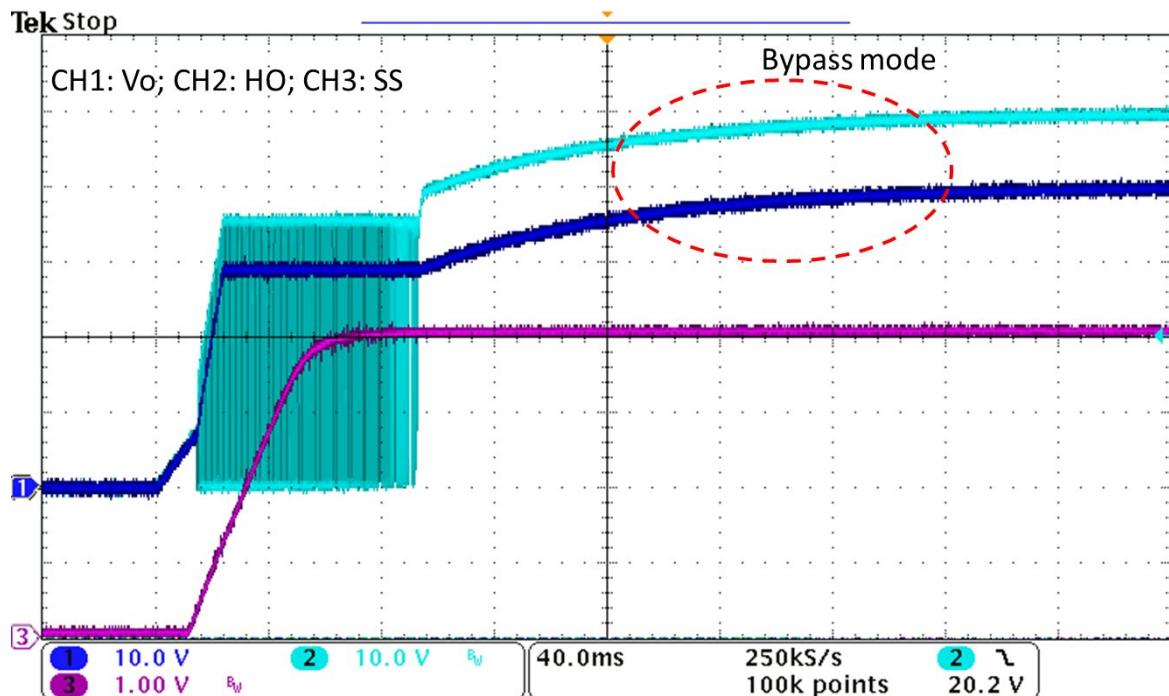

Figure 2. Normal Bypass waveform
Figure 2 shows a typical operating waveform in the Bypass mode. CH1 is the output voltage (VO); CH2 is the high-side output voltage (HO); CH3 is the soft-start pin (SS). Test settings: The input voltage sets to 40V; the fixed output voltage sets to 28V. As can be seen from the figure below, when the input voltage is lower than the output, the LM5122 operates in the PWM mode, and the high-side switch is controlled by pulse-width modulation (PWM); when the input voltage rises above the selected 28V, an internal charge pump charges the high-side switch, which enables the Bypass mode. It can be verified that the LM5122 can achieve the Bypass function well within the recommended operating voltage range (4.5V~65V) when it is switched on and off only by the input voltage.